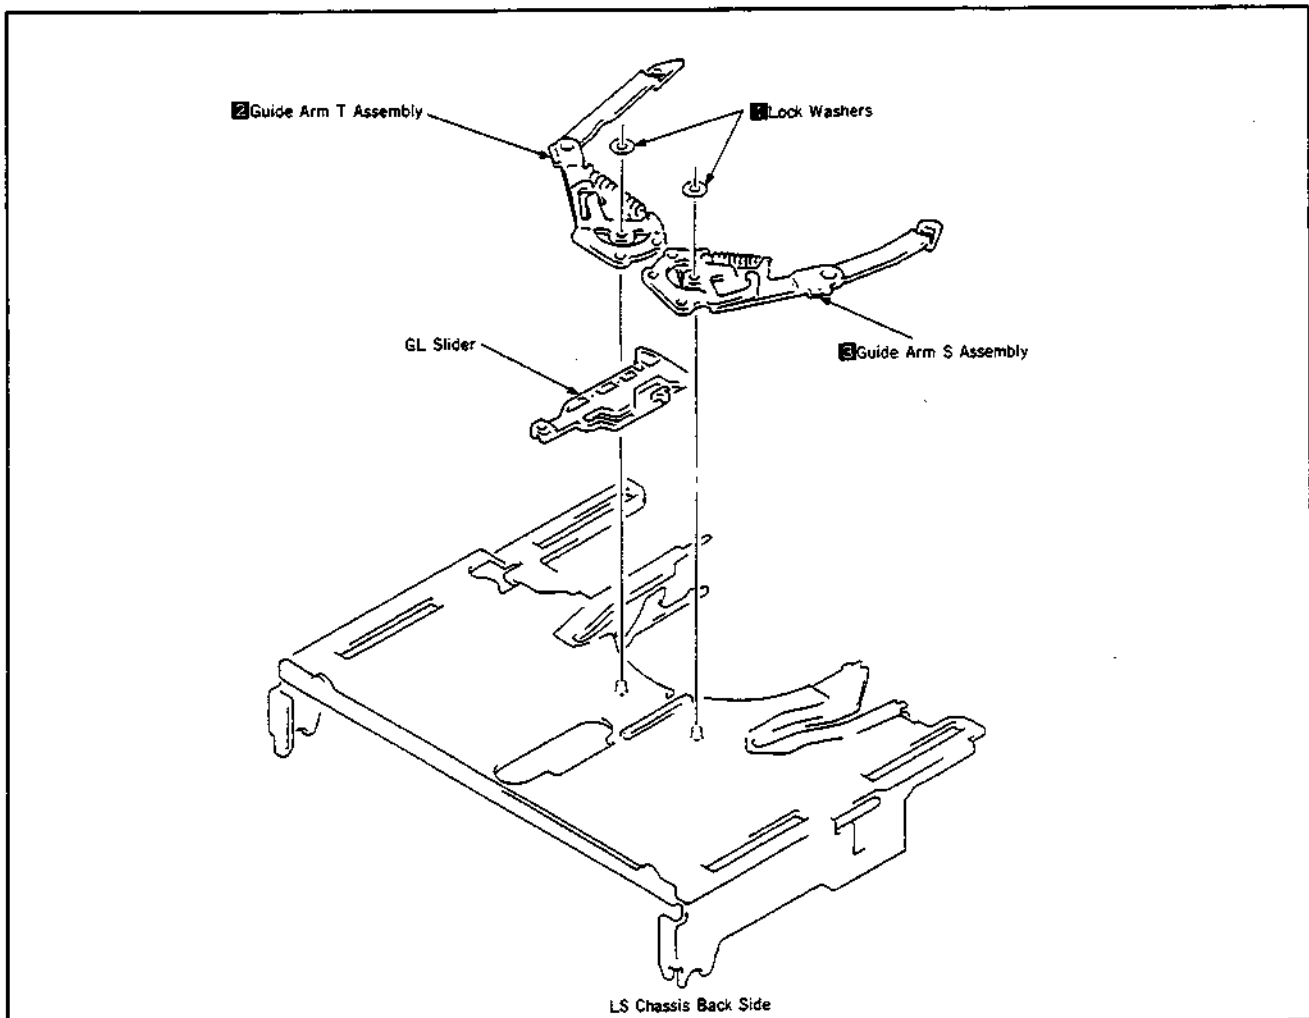

Fig. 17
5. **GUIDE ARM T ASSEMBLY AND GUIDE ARM S ASSEMBLY (Fig. 17)**